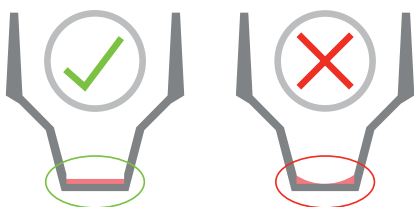

Figure 6. Minimum volume required is 20  $\mu\text{L}$ .
- a. The minimum volume required to cover the well bottom and prevent exposure of cells to air is 20  $\mu\text{L}$  (Figure 6). When removing media, ensure that the cells always remain covered. If the cells are exposed to air, gently dispense just enough media to cover the cell layer before discarding the remainder of the media.